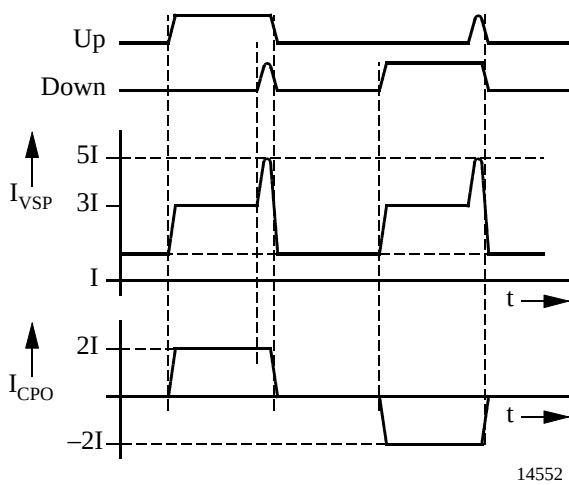
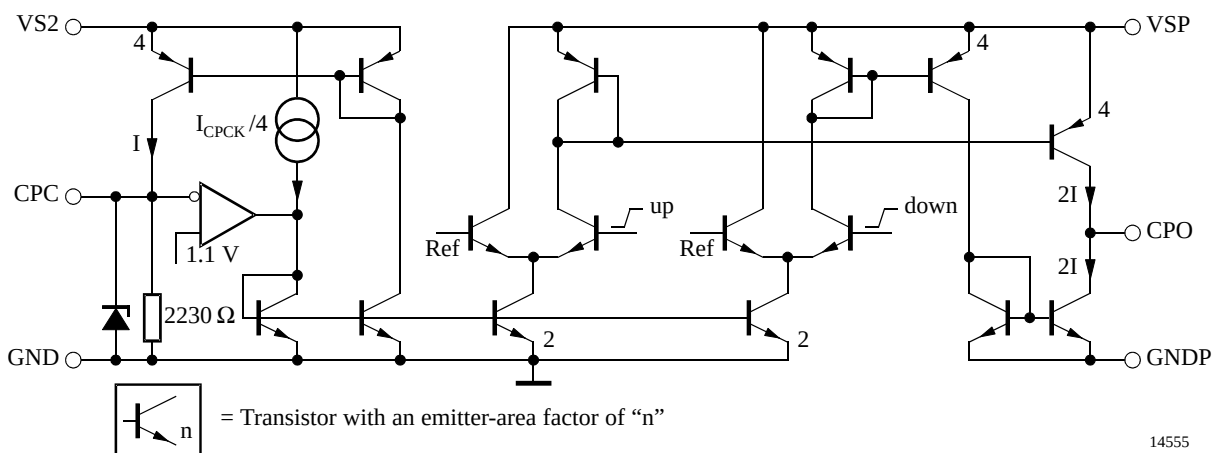

Figure 3. Supply current of the charge pump = $f(t)$
Figure 7. Charge pump
1) Mean value, measured with F_{ND} = 151 MHz, F_{RD} = 150 MHz, current vs. time, figure 3.
⁸⁾ See figure 7
Due to the pulsed operation of the charge pump, the current into the charge-pump supply Pin VSP is not constant. Depending on I (see figure 7) and the phase difference at the phase detector inputs, the current I_{VSP} over time varies. Basically, the total current is the sum of the quiescent current, the charge-/discharge current, and – after each phase comparison cycle – a current spike (see figure 3).